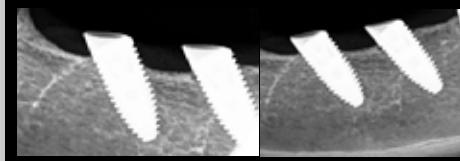

Fig 6: Radiographs 3 months after placement in dog 3 without immediate loading. Crestal bone loss occurred around all of these implants.
There was no significant difference in bone loss regarding the newly designed implants placed in a 30 degree angulation (Fig. 9) compared to the conventional implants placed straight. The radiographic analysis revealed the largest amount of bone loss following implant installation. This bone loss was more pronounced at implants in Group 3 & 4 without immediate loading (Fig. 8). The implant bone level alterations after 3 months of functional load in Group 1 & 2 did not differ significantly between the groups (Fig.6,7). The histological analysis revealed an average Bone-to-Implant Contact (BIC) of 63.48% with values between 43.39% to 92.05%. Implants exposed to functional load exhibited a higher degree of BIC than control implants without loading. The average bone loss was 1.11mm after 3 months for all implants.
- Fig 6: Radiographs 3 months after placement in dog 1. Due to overload the metal bar fractured. Even with this excessive overload only localized crestal bone loss resulted at the surrounding implants.